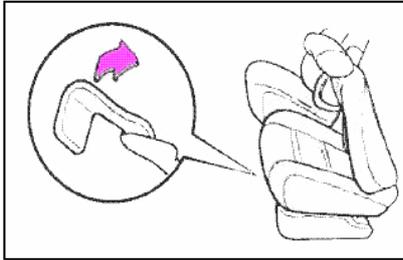

Fig.22
- Fold seat forward (Fig.22)
- Lift and release lever under seat. (Fig.22)